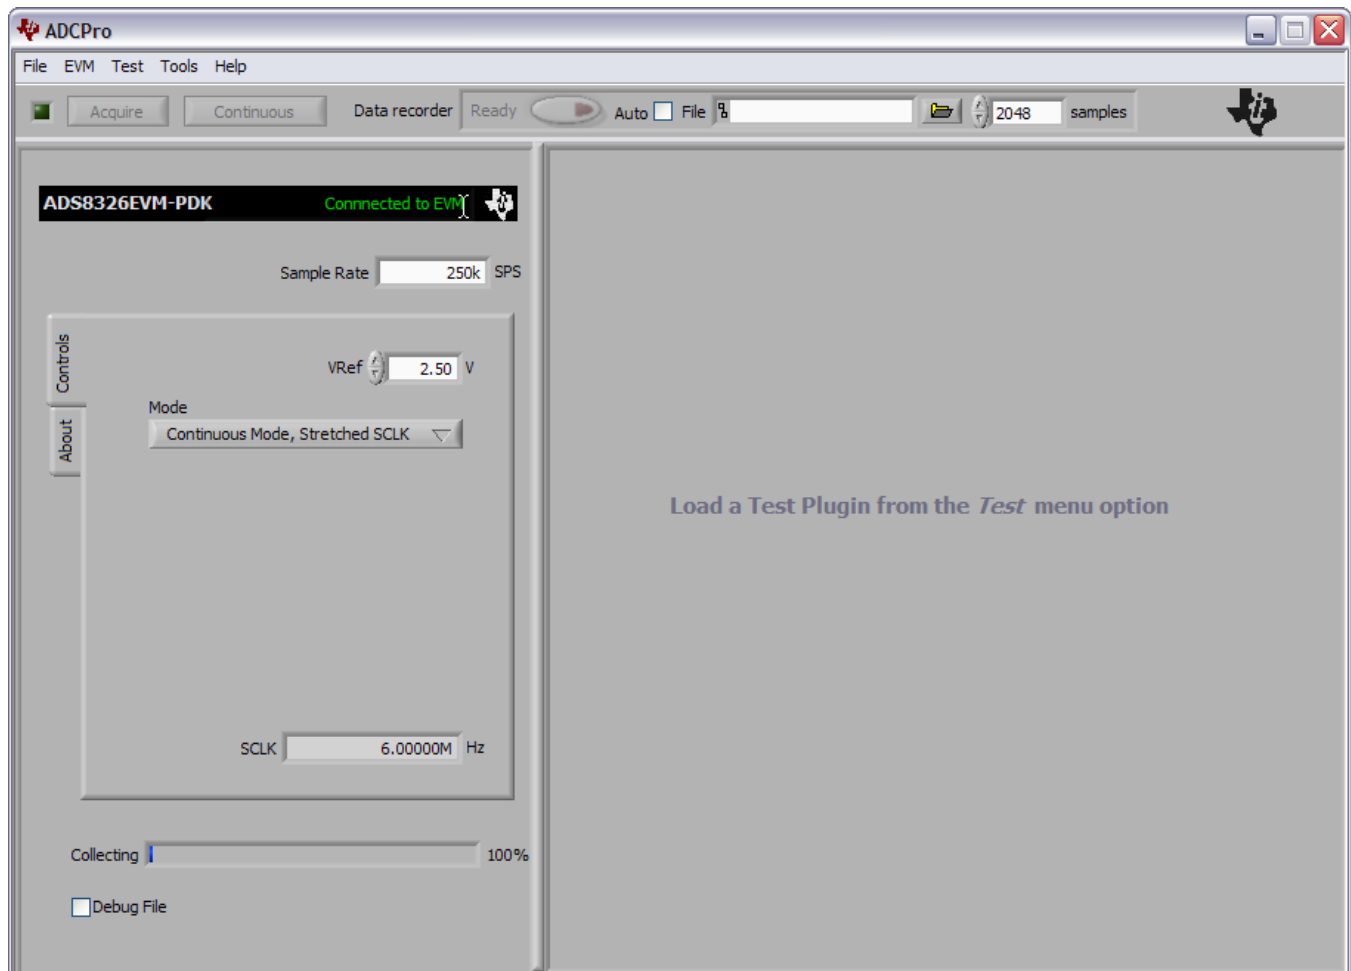

Figure 8. ADS8326EVM-PDK Plug-In Display Window
- Step 2. Select *ADSXXXXEVM* (where *ADSXXXXEVM* is the installed device which is to be evaluated) from the EVM drop-down menu. The *ADSXXXXEVM-PDK* plug-in appears in the left pane, as shown in Figure 8.